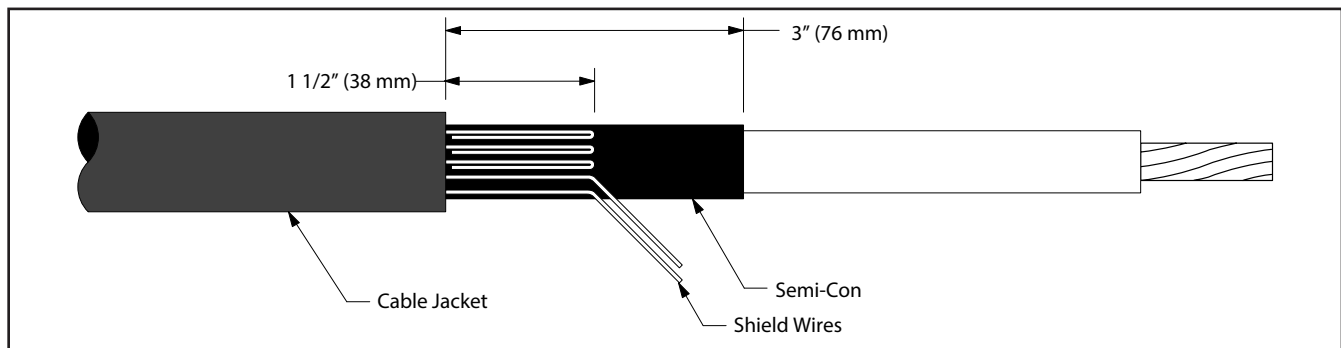

Figure 10
- 7.4 Bend leading 1 1/2" (38 mm) of exposed shield wires back upon themselves to jacket edge (Figure 10).